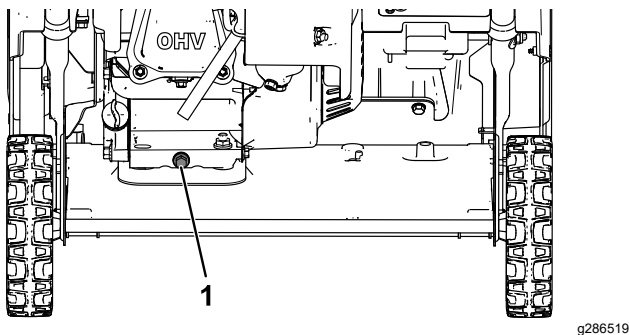

Figure 20
3. Place an oil-drain pan under the oil-drain plug, remove the plug, and tip the machine backward and drain the used oil in the pan (Figure 20).